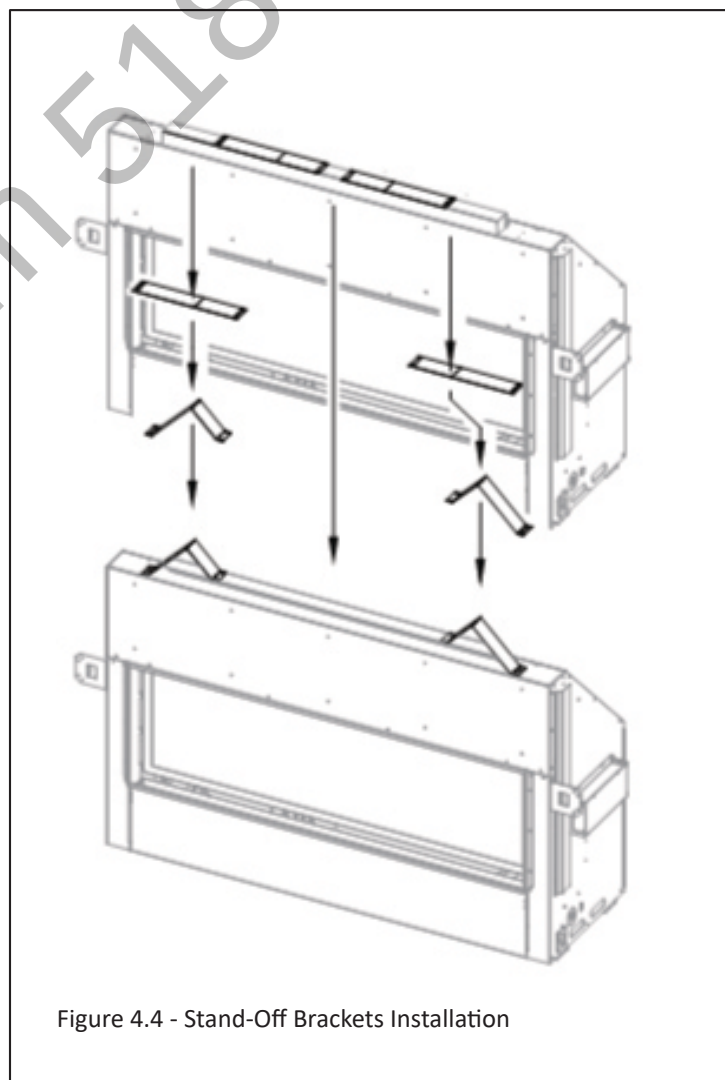

Figure 4.4 - Stand-Off Brackets Installation
5. Install stand-off brackets. See Figure 4.4.